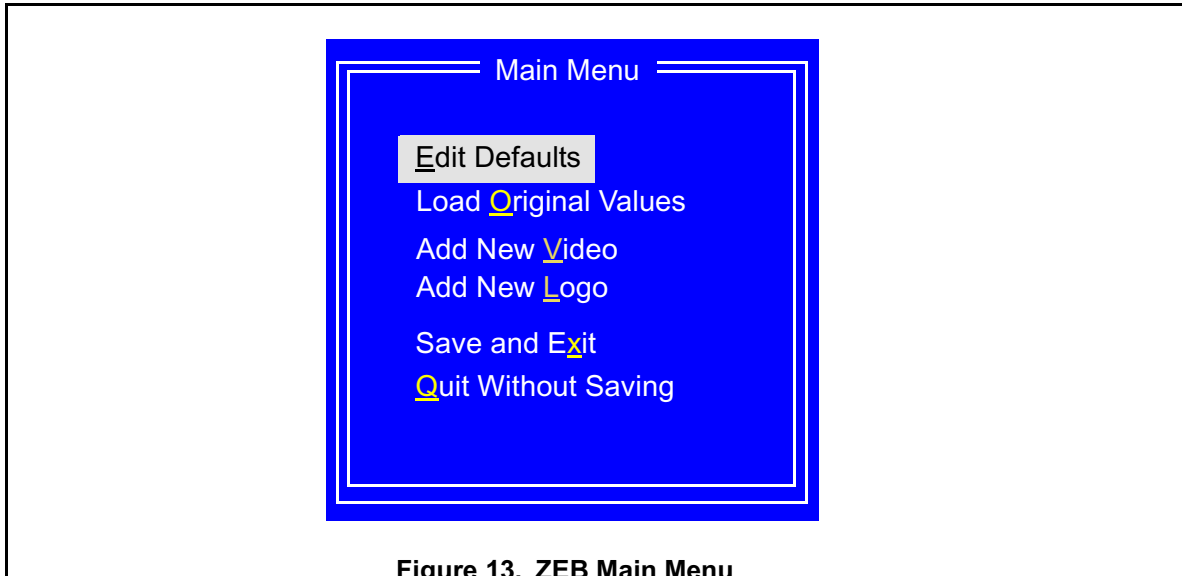

Figure 13. ZEB Main Menu
2. Select the **Edit Defaults** menu item, and press the Enter key. See Figure 13.